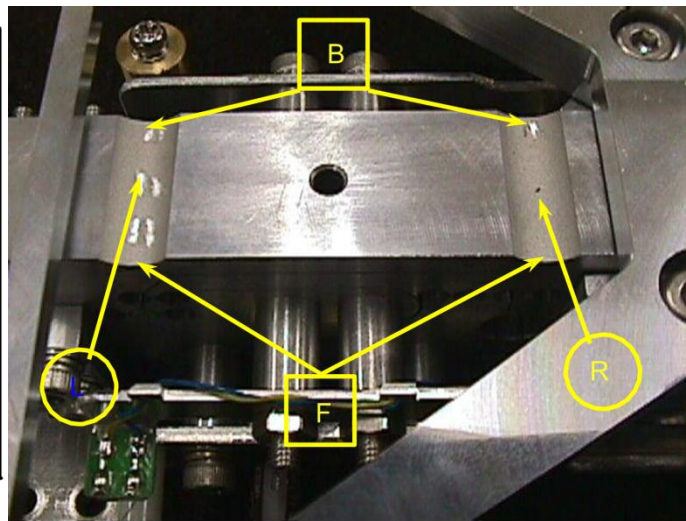

Fig.29
- Grind slightly with the corner load adjustment tool (J4, J5) the parts of the flexures corresponding to the off-positions of the pan showing plus errors. Note: First adjust L-R direction as this direction is relatively less sensitive than the F-B direction. For L-R adjustment, grind the center of the flexure part. (Fig.29) For F-B adjustment, grind the parts of flexure just off the edge (Fig.29).